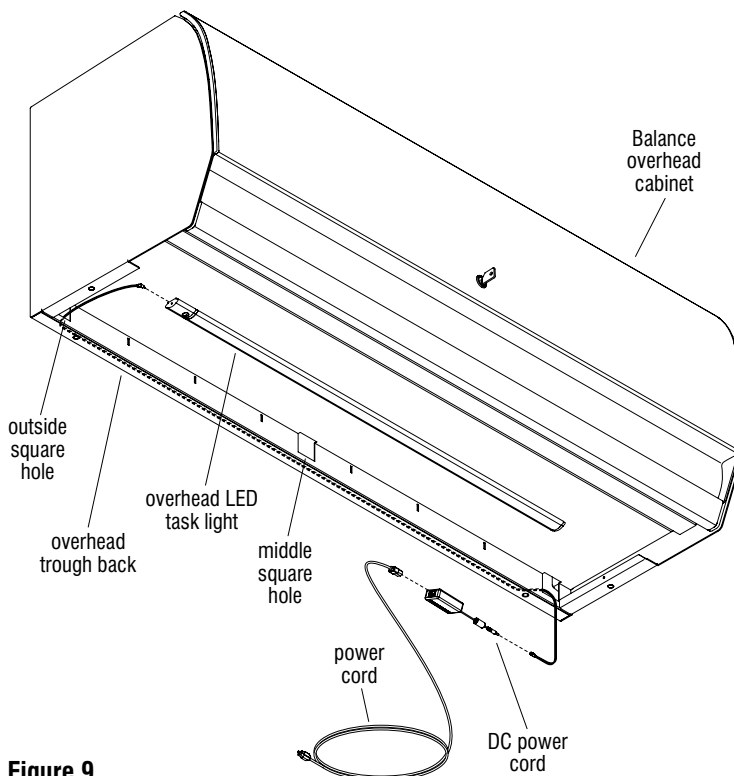

Figure 9
2. Take the DC power cord in hand and plug the male connector end into the female end of the overhead LED task light as illustrated (Figure 9).
3. If needed, route the female connector end of the DC power cord through the outside square hole in the overhead trough back and route it out the opposite outside square hole or middle square hole (Figure 9).
4. Plug the female connector end of the DC power cord to the male end of the overhead LED power infeed (Figure 9).
5. Plug the male end of the power cord into the female end of the overhead LED power infeed box (Figure 9).